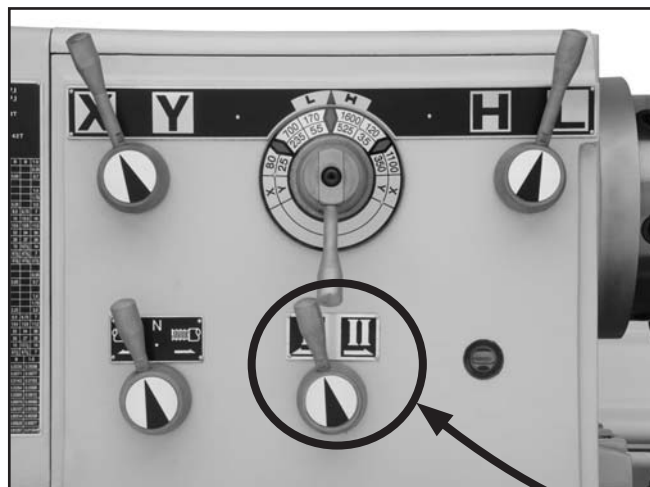
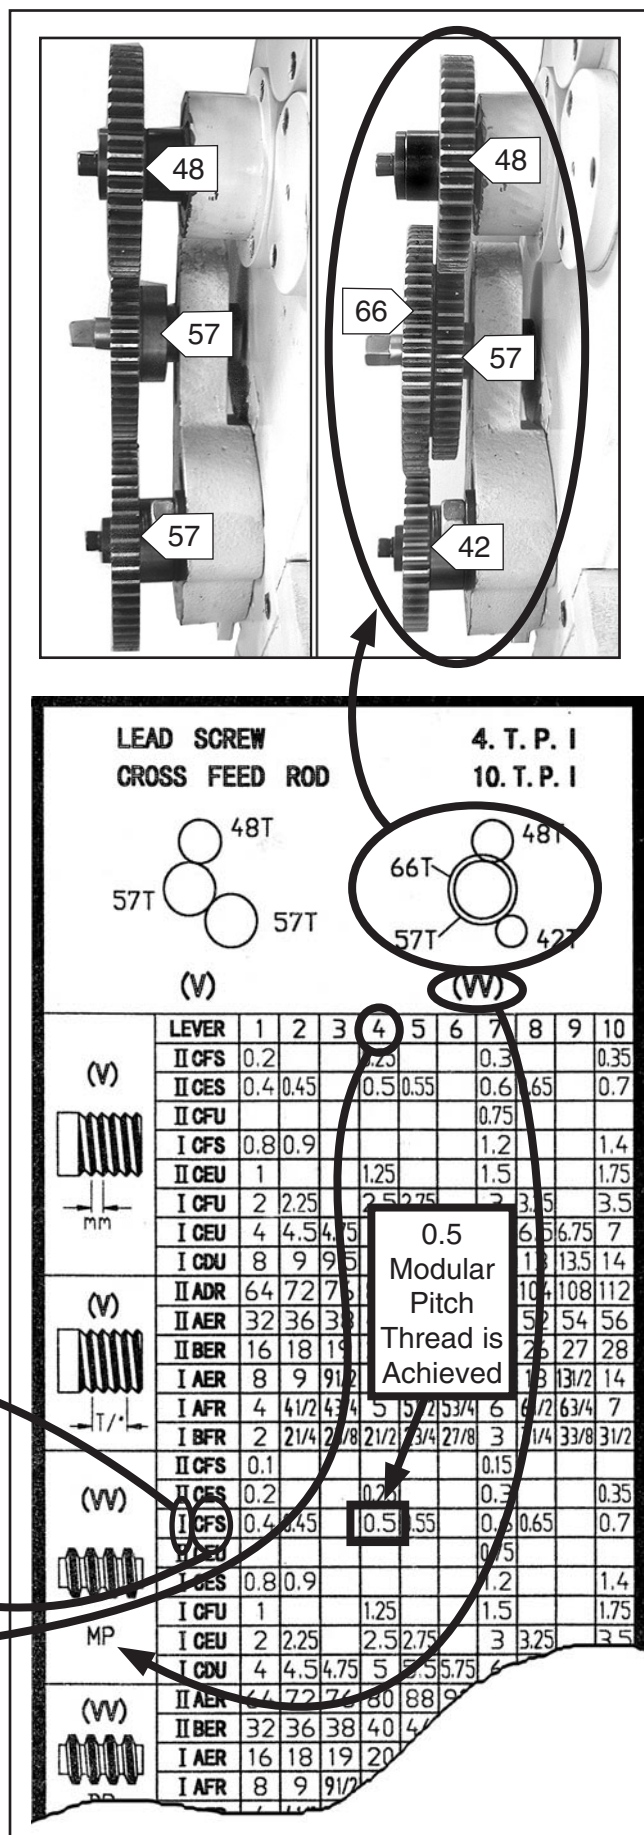

Figure 54. Headstock controls.
Figure 56. Threading chart.
Example: To cut a modular pitch thread of 0.5, the threading chart in **Figure 56** indicates that you must change the gears into the (W) mode shown, and move the levers and dials to positions I, C, F, S, and 4 (**Figures 54 and 55**).
17. When you are finished, make sure the gear arrangement matches the (W) mode arrangement shown in **Figure 56**.
17. When you are finished, make sure the gear arrangement matches the (V) mode arrangement shown in **Figure 56**.